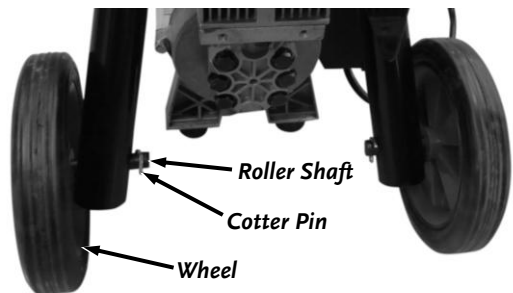

Figure 2
1. Secure the wheels to the legs with a clevis pin and cotter pin on each side (**Figure 2**).